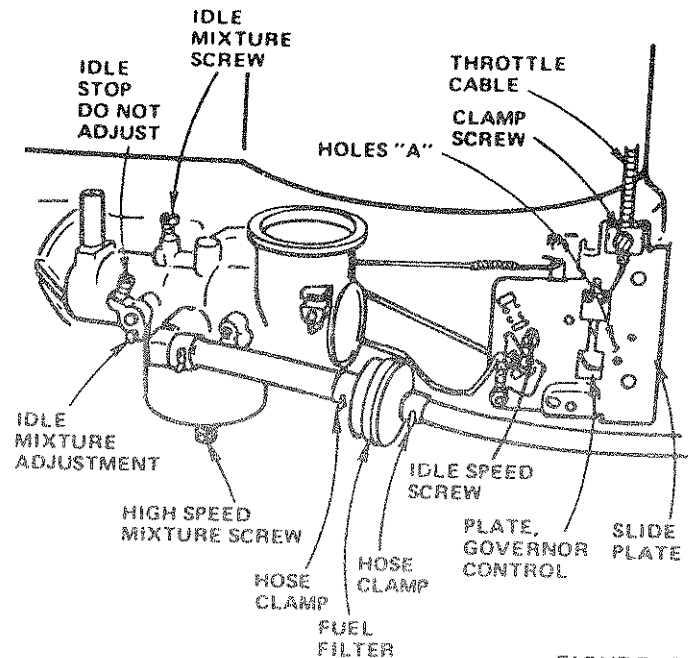

FIGURE 19
- Loosen Clamp Screw (Fig. 19). Adjust Throttle Cable until holes "A" are aligned in governor control plate and slide plate.
- With engine off turn high speed mixture screw clockwise (↻) closing finger tight ONLY, and turn counterclockwise (↺) 1-1/2 turns (Fig. 19)
- Turn idle mixture screw clockwise (↻) closing finger tight only, and turn counterclockwise (↺) 1-1/2 turns (Fig. 19).